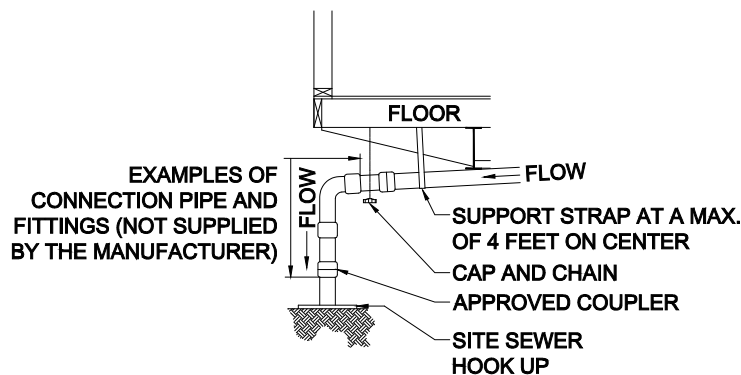

Figure 48. DWV connection to sewer/septic
4. **Connect to outlet.** Connect the main drain line to the site sewer/septic hook-up, using an approved elastomer coupling or by other methods acceptable to the LAHJ (Figure 48).